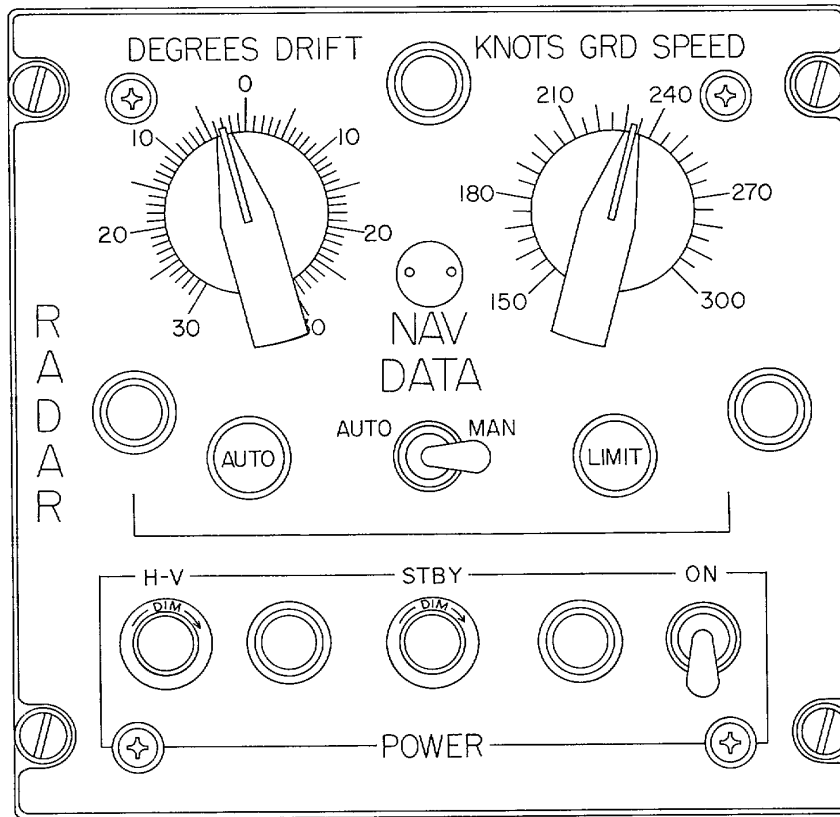

Figure 2-1. RADAR control, front panel.
b. *Indicators.* The following chart lists the RADAR control indicators (fig. 2-1) and indicates the function of each:
(5) Set the aircraft circuit breakers that control application of power to the radar set to ON. (These circuit breakers are located below and to the right of the radar set operator's position in Army Model OV-1B (Mohawk) aircraft.)
(6) Set the RADAR control ON switch (fig. 2-1) to ON.
(7) Check to see that the panel markings on the RADAR control, the RECORDER control, and the MONITOR are illuminated. (On some aircraft, panel illumination may be controlled by the pilot of the aircraft. If panel markings do not appear, check the pilot's panel illumination control). Three minutes after setting the RADAR control ON switch (fig. 2-1) to ON, check to see that the RADAR control blue STBY lamp lights.
(8) See that the power supply and synchronizer blowers are operating; listen for the sound and hold a moistened finger near the exhaust ports of the components. (External blowers on the receiver-transmitter are temperature-controlled and do not operate until the temperature reaches 140 degrees F).
position and the trace will be less brilliant than when the MONITOR and the RECORDER control ANTENNA switches are in either the left or right positions. If a trace does not appear after 1 minute, depress the RADAR control STBY switch (fig. 2-1). After 10 seconds, a trace should appear on the MONITOR crt (fig. 2-3).
(15) Set the RECORDER control RANGE DELAY switch (fig. 2-2) to the O-delay position, set the RADAR control NAV DATA switch to MAN and the DEGREES DRIFT control (fig. 2-1) to 0, and rotate the RECORDER control RANGE switch (fig. 2-2) through its three positions, stopping momentarily at each position to observe the presentation on the MONITOR crt (fig. 2-3). The trailing edge of the range pedestal should appear at positions on the MONITOR crt corresponding to the setting of the RANGE switch. (A, figure 2-6, shows the MONITOR crt presentation that would be obtained with the RANGE switch in the 50 position).
(16) Set the RECORDER control RANGE switch (fig. 2-2) to 25, set the RADAR control DEGREES DRIFT control (fig. 2-1) to 0, and rotate the RECORDER control RANGE DELAY switch (fig. 2-2)
(17) Set the RADAR control NAV DATA switch (fig. 2-1) to MAN. Set the RECORDER control RANGE switch (fig. 2-2) to 25 and the RECORDER control RANGE DELAY switch (fig. 2-2) to 60. Slowly rotate the RADAR control DEGREES DRIFT control (fig. 2-1) counterclockwise from 0 to 30. The presentation on the MONITOR crt (fig. 2-3) will increase in range as the 30 position of the DEGREES DRIFT control is approached. C, figure 2-6, shows the MONITOR crt presentation that would be obtained with the RECORDER control RANGE switch at 25 and the RANGE DELAY switch at 60 (fig. 2-2). The dotted line on the presentation shows the displacement in range that would take place as the RADAR control DEGREES DRIFT control (fig. 2-1) is rotated counterclockwise from 0 to 30.
(20) Press the RADAR control H-V switch (fig. 2-1) and see that the green H-V lamp lights and the blue STBY lamp extinguishes. Press the STBY switch and check to see that the H-V lamp is extinguished and the STBY lamp is lighted. (If the H-V and STBY lamps do not light, see that the mechanical dimming shutters contained within the indicator are not fully closed.)
(21) Remove the 5-inch strip-film magazine from the 5-inch film driver.